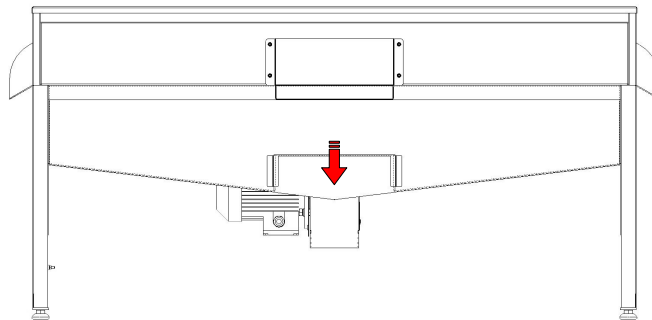

Figure 6: Crumb tray baffler
10. Insert crumb tray baffler, see Fig.6